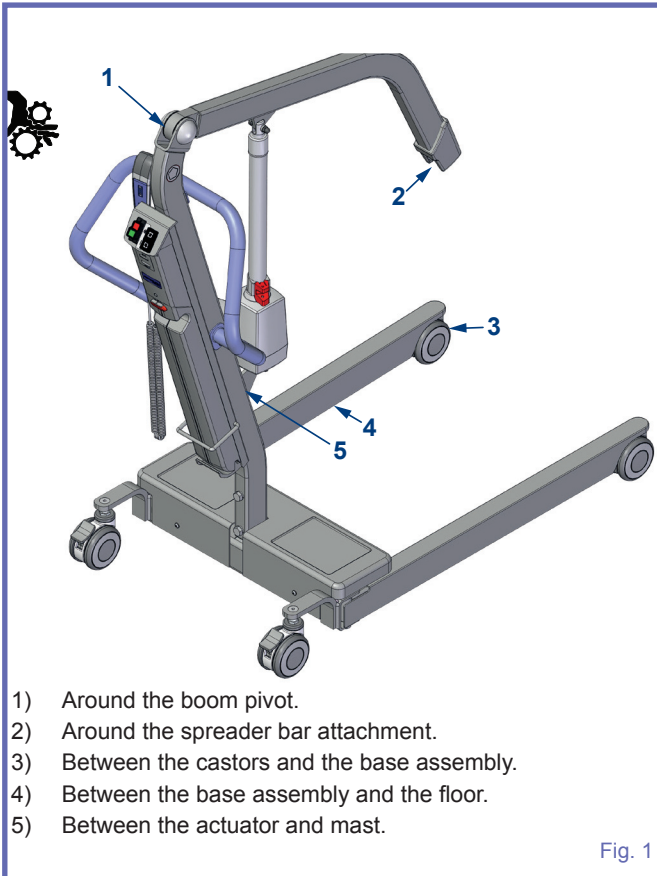

Fig. 1
**WARNING:** Do not put fingers, hands or feet where space is limited (see "Fig. 1"). This could pinch, cut, or seriously harm body parts.